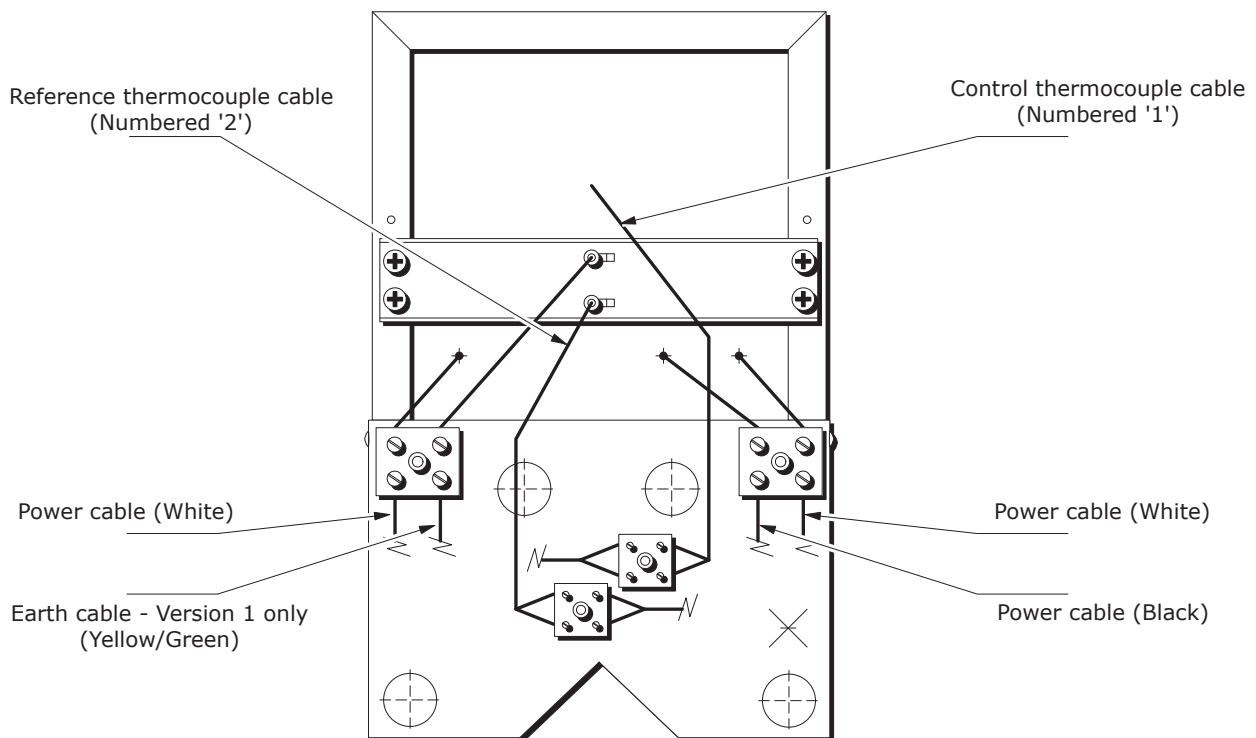

Fig. 3a Location of terminal blocks on insulation assembly (Rear View) CA970261a
The location of the terminal blocks on the insulation assembly is shown in Fig. 3a.
- 2) Refer to Fig. 3a Disconnect the mains cable terminals from the terminal block.
- (a) For version 1 sources (those manufactured up to and including 2003) the earth connection is as shown in Fig. 3a. Disconnect the earth cable from the earth terminal.
- 3) Connect the 3 power cables (2 white and 1 black) to the large terminal blocks as shown in Fig. 3a.